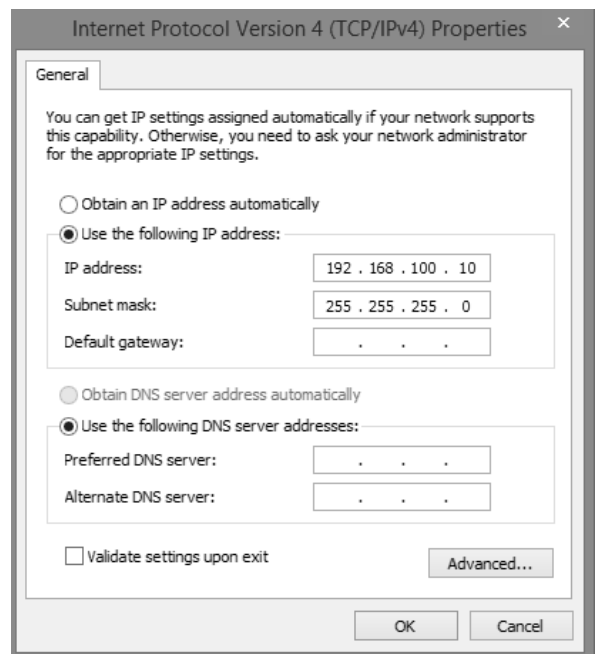

Fig. 3-6, Windows 8® Internet Protocol Version 4 (TCP/IPv4) Properties
6. Select **Use the following IP address** (See Fig. 3-6). Enter the values as shown (i.e. IP address 192.168.100.10 and Subnet mask 255.255.255.0).